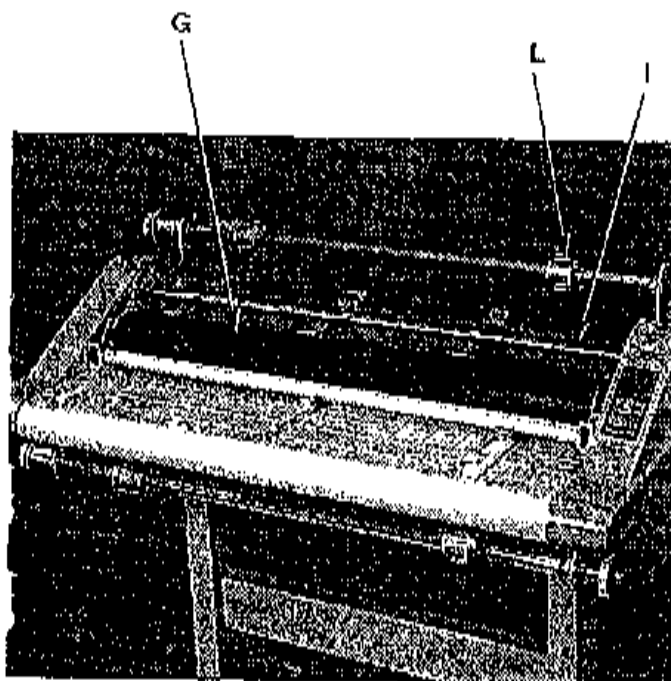

Fig. 4
L. FILM SHAFT & CORE ADJUSTER: The core adapters are inserted into the ends of the film cores. The film shaft is inserted through the centers of the core adapters then placed on the laminator, (Figure 4). The Discovery can run 1, 2 1/4 and 3 inch core films.